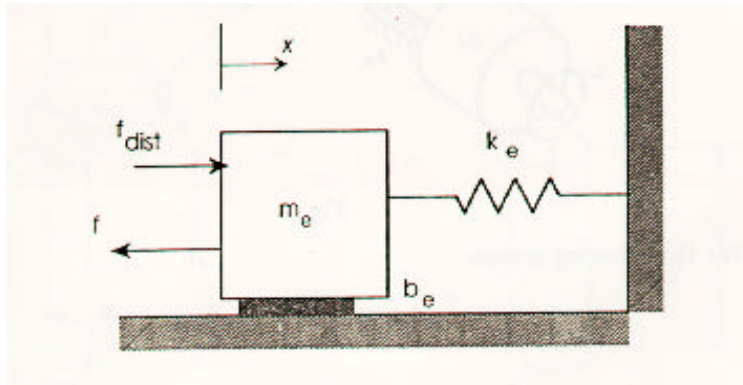

Fig. 10
6. a. Consider the simplified system shown in Fig. 10 representing an end effector contacting the environment along the direction labeled  $x$  where